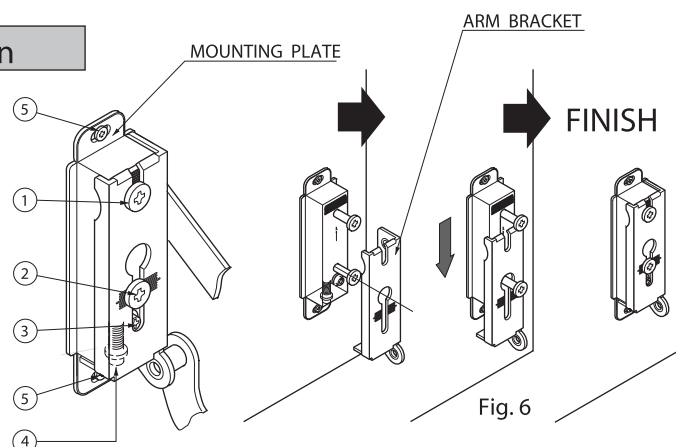

Fig. 6
Step 4. Slide on the arm brackets to the mounting plates and fix with the screws on the mounting plates as per shown in Fig.6.